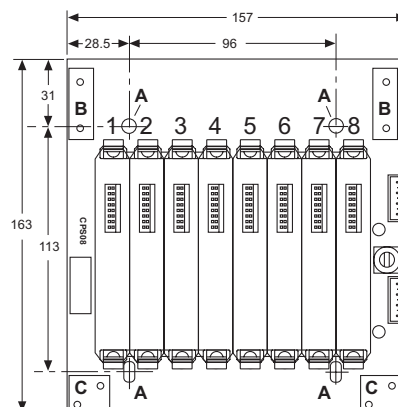

Figure 4.1:
See the table for details of the kits and accessories applicable to the mounting methods and Figure 4.1 for dimensions and mounting centres.
See Figures 4.1 and 4.2.
- b) Prepare holes in the surface at centres A, tapping these if retaining nuts are not required (Figure 4.1).
- d) Insert the screws through the backplane at each mounting centre A (Figures 4.1 and 4.2).
See Figures 4.1, 4.3, 4.4 and 4.5.
- b) Mount the two lengths of DIN-rail side-by-side at centres A, 113mm apart (Figure 4.1).
- f) Insert the assemblies through the mounting holes A on the backplane (Figures 4.1 and 4.4).
See Figures 4.1, 4.9, 4.10 and 4.11.
- a) Locate the tagging strip mounting posts (1) at backplane centres B (Figure 4.1).
See Figures 4.1, 4.9 and 4.10.
- a) Locate the earth rail mounting posts (1) at backplane centres C (Figures 4.1 and 4.9).